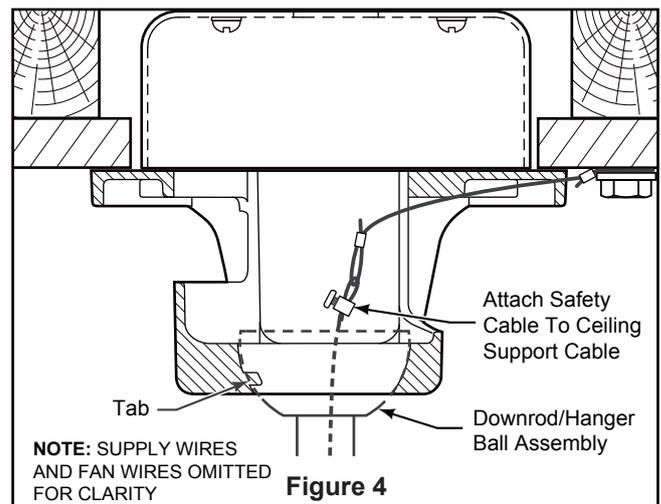

Figure 4
4. Slide downrod into the downrod support on top of the motor. Install the clevis pin by aligning the holes in the downrod support with holes in the downrod. Secure clevis pin with hairpin clip. Tighten the two set screws with nuts in the downrod support. (Figure 4)
4. Carefully lift the fan and seat the downrod/hanger ball assembly onto the hanger bracket that was just attached to the outlet box. Be sure the groove in the ball is lined up with tab on the hanger bracket. (Figure 4)
5. Attach the safety cable to ceiling support cable. Slide cable clamp and washer onto safety cable (from fan). Place the end of cable through the loop of ceiling support cable. Pull as much cable through loop as possible. Feed end of cable into clamp hole and firmly tighten screw. (Figure 4)
3. Connect wires using connectors as shown in Figure 4.
4. Remove the six screws in the motor assembly and retain the screws for reassembly in steps 5 and 6. (Figure 4)
4. To make fan operational, install two 3V batteries (included) in hand-held remote transmitter, with fan power off. Then, follow the remote code setting process. If not used for long periods of time, remove battery to prevent damage to transmitter. Store the remote away from excessive heat or humidity. (Figure 4)